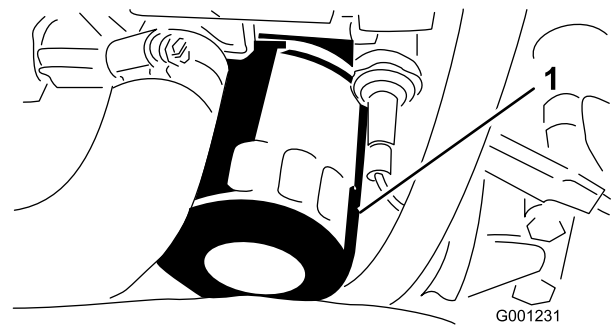

Figure 48
8. Remove and replace the oil filter (Figure 48).